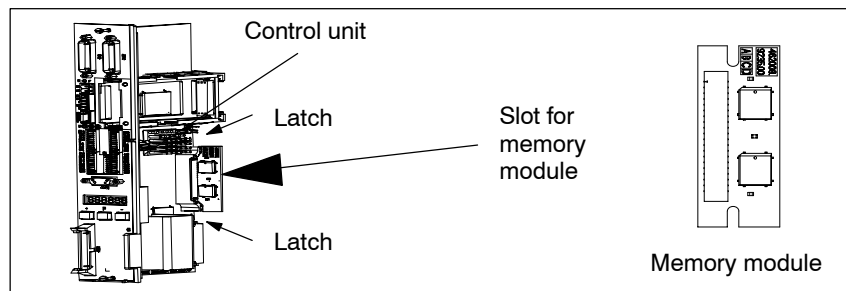

Fig. 2-2 Installing/removing the memory module
2. Press the memory module latches downwards and outwards until they release (refer to Fig. 2-2).